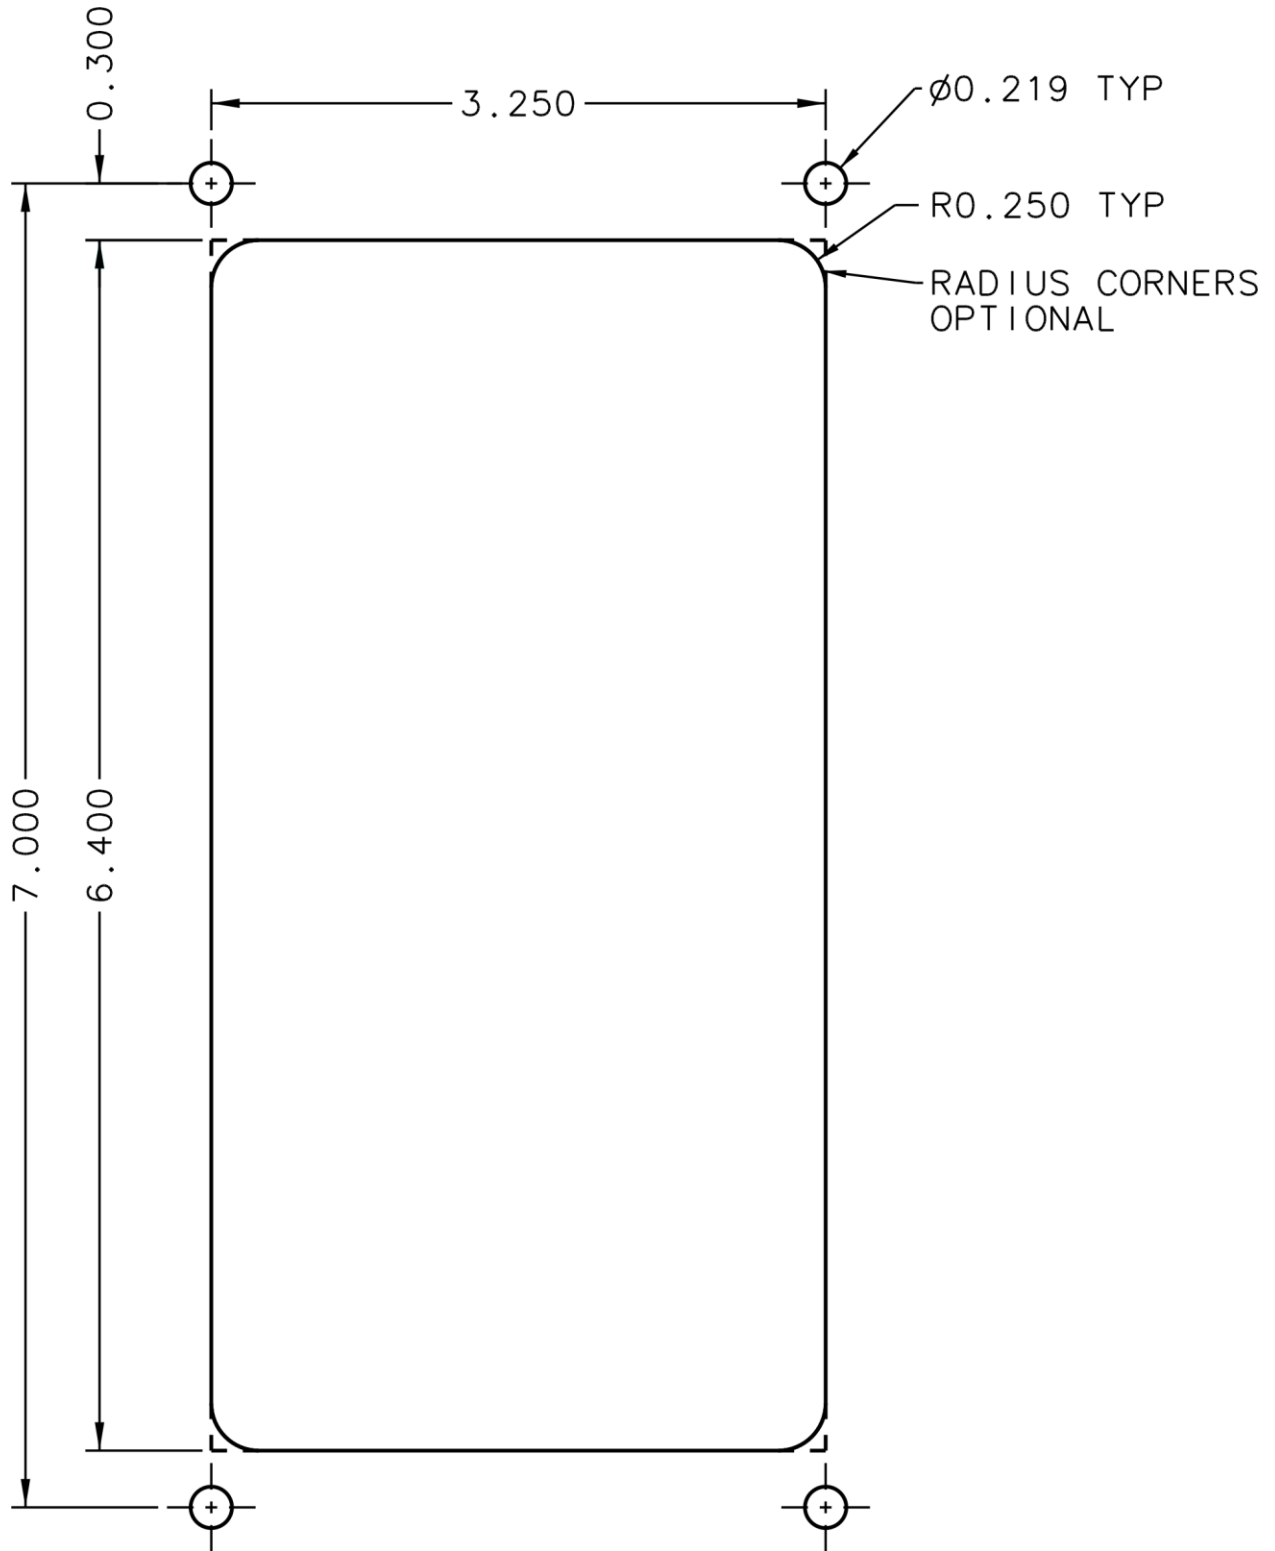

Figure 15
- a) Mark the panel cutout and mounting screw pattern per dimensions in Figure 15